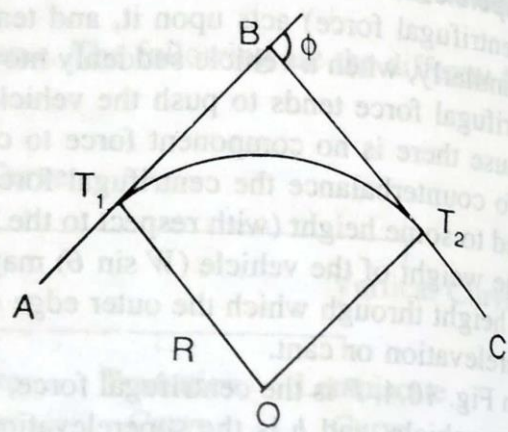

Fig. 10.5
1. Simple circular curve When a curve consists of a single arc with a constant radius connecting the two tangents, it is said to be a circular curve (Fig. 10.5).